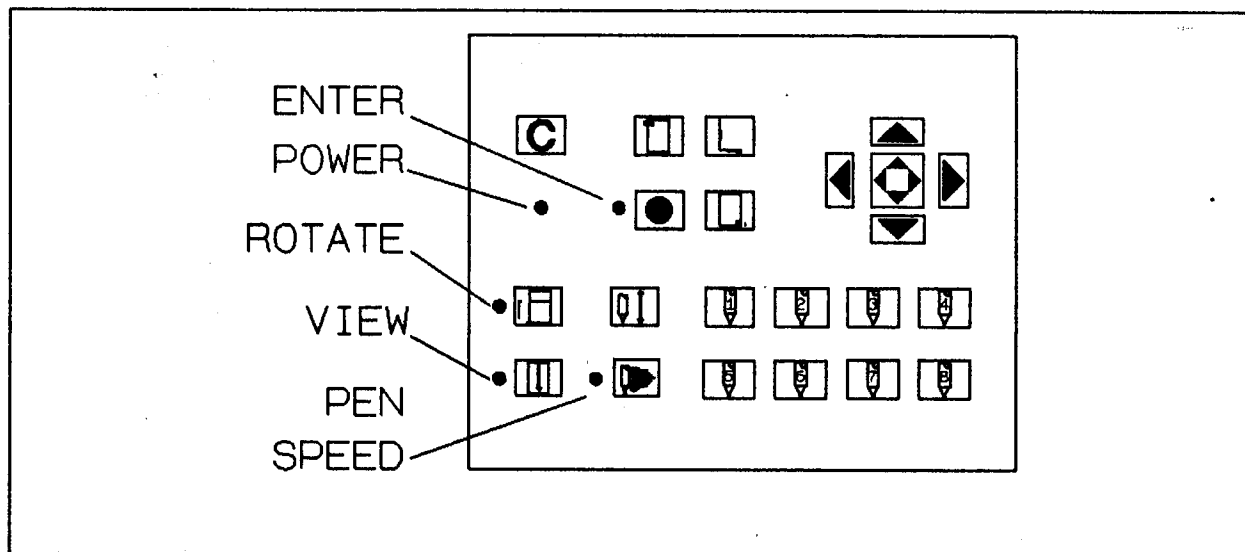

Figure 3-7. Front Panel LEDs
3-31. When ac line voltage to the plotter is turned ON (I) a series of built-in tests are automatically performed to verify proper plotter operation. The test sequence will run either to completion, at which time normal plotter operation will begin, or to an error condition. An error will cause the test to stop, which prevents normal plotter operation. The front panel LEDs will display failure information. See Figure 3-7. Two possible error conditions may be displayed. In the first, the LED failure display will be flashing on and off. This indicates that the test circuitry received bad data from a particular portion of the circuitry. In the second condition, the LED error display will remain on steadily. This indicates no response from some portion of the circuitry. The only exit from an error condition is to turn OFF (O) ac power to the plotter. Diagnostic information is listed with the test steps in Table 3-3.
3-47. There are five LEDs on the front panel to indicate various conditions to the operator. See Figure 3-7 for the indicator locations. The indicators are: